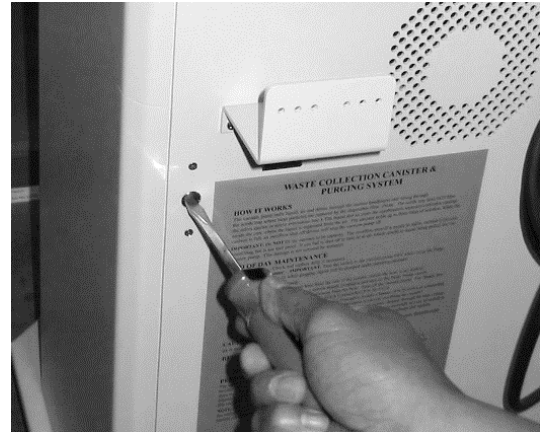

Fig. 1
Step 2 - Open back panel of unit using a flat head screwdriver. There are two quick-turn screws on the back of unit. Move suction tube and electrical cord out of the way of back door. (Fig. 1)